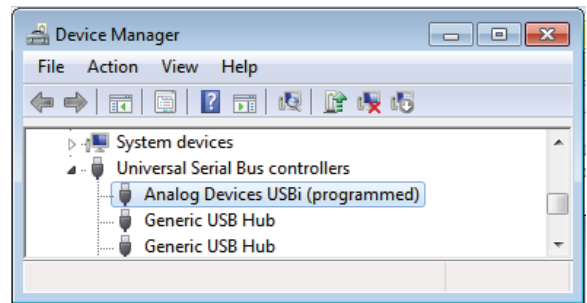

Figure 8. **Confirming Driver Installation Using the Device Manager**
- In the Windows **Device Manager**, under the **Universal Serial Bus controllers** section, check that **Analog Devices USBi (programmed)** is displayed (see Figure 8).